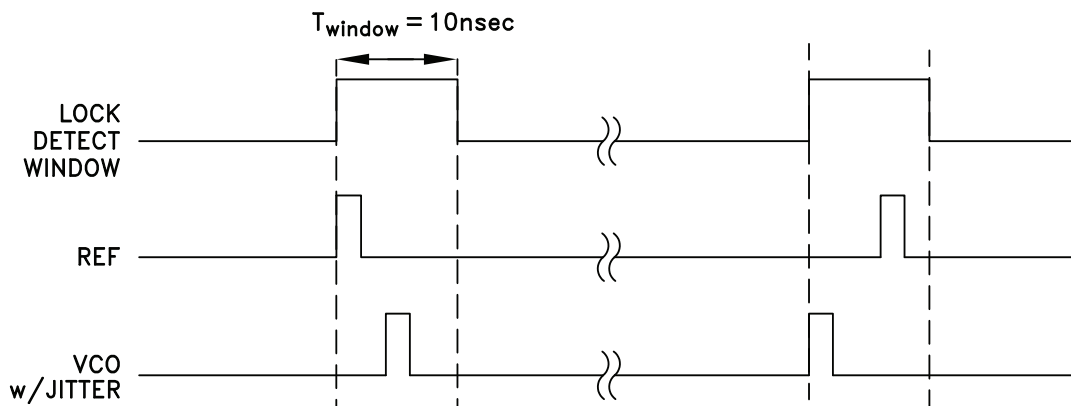

Figure 11. Normal Lock Detect Window
The Lock Detect circuit in the HMC700LP4(E) places a one shot window around the reference. The one shot window may be generated by either an analog one shot circuit or a digital one shot based upon an internal ring oscillator. Clearing *ringosc_oneshot_sel* (Table 14) will result in a fixed analog based nominal 10 nsec window, as shown in Figure 11. Setting *ringosc_oneshot_sel* will result in a variable length window based upon a high frequency internal ring oscillator. The ring oscillator frequency is controlled by *ringosc_cfg*. The resulting lock detect window period is then generated by the number of ring oscillator periods defined in *oneshot_duration*, both in (Table 14).
The Lock Detect Flag is output to LD_SDO pin according to *pdf_LD_opEn* (Table 18) or to the internal SPI read only register if *locked* = 1 (Table 21). Setting *pdf_LD_opEn* will display the Lock Detect Flag on LD_SDO except when a serial port read is requested, in which case the pin reverts temporarily to the Serial Data Out pin, and returns to the Lock Detect Flag after the read is completed. Timing of the Lock Detect and Serial Data Out functions are shown in Figure 11.